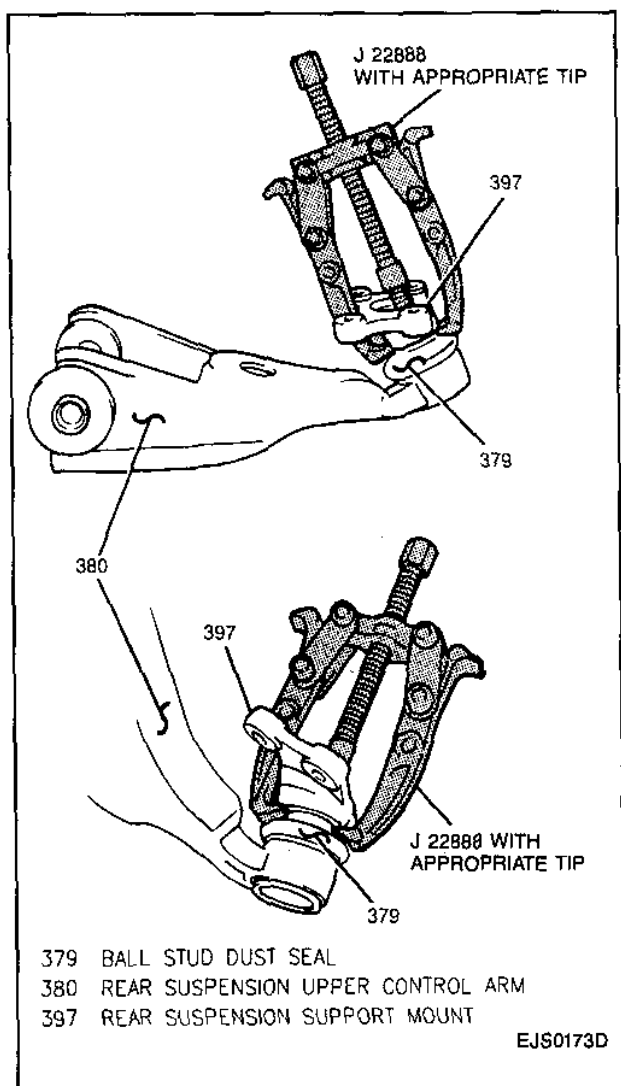

Figure 18—Removing Rear Suspension Support Mount
10. Rear suspension support mount from ball stud using a J 22888 with appropriate tips (Figure 18).